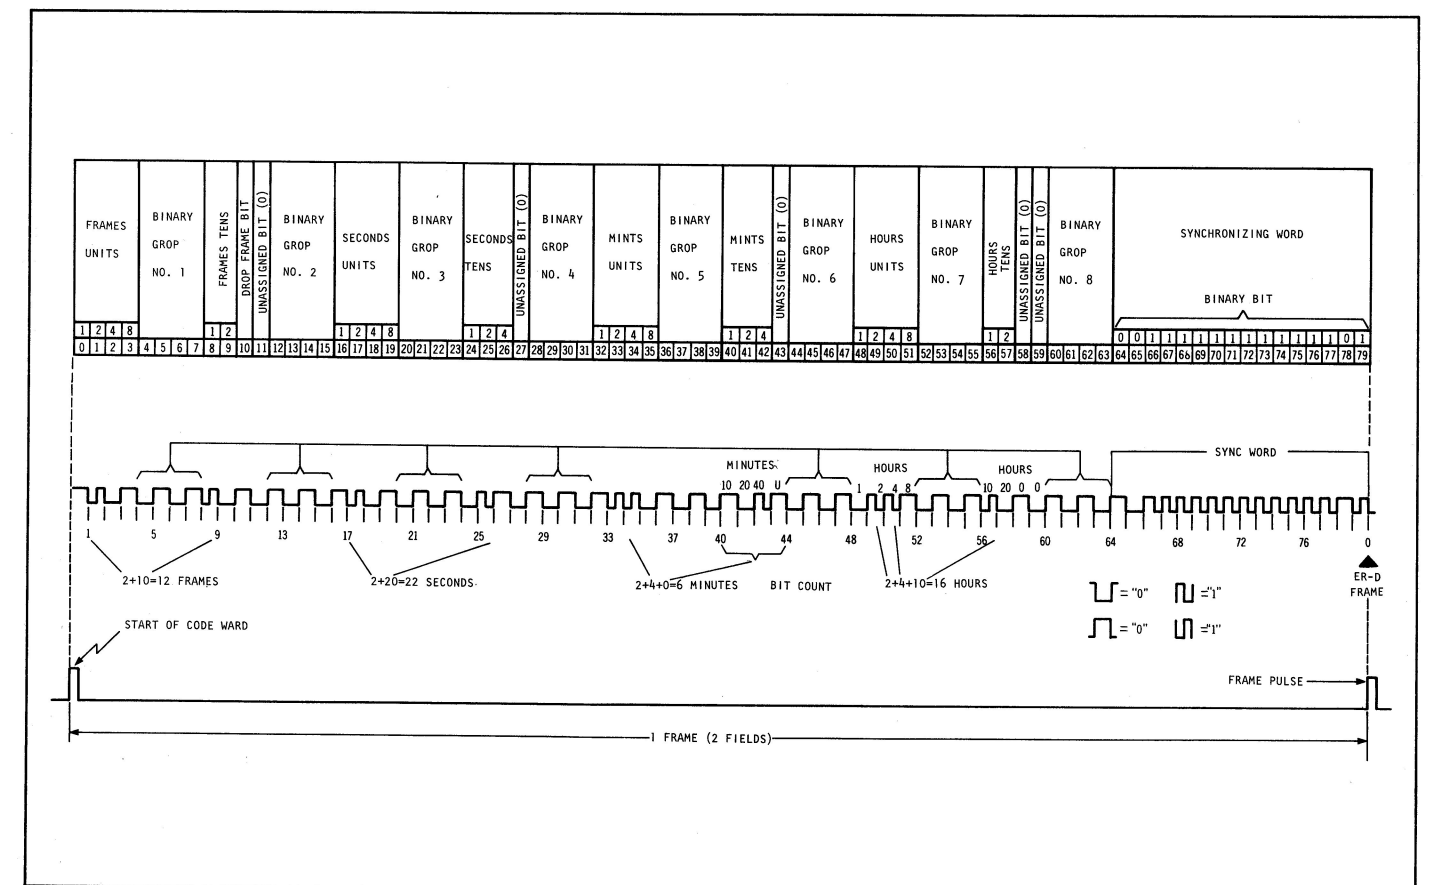

Figure 3-37
By observing the schematic in Fig. 3-36 and the timing chart given in Fig. 3-35, one can see the input from the CPU group (IC345-6), the $\phi 2$ TTL clock. This goes to three decimal counters ($\div 10$) 7493, which also have a B input for divide by 8 (See Fig. 3-37). As block diagram shows input A is counted down into 1/2 at QA, 1/4 at QB, 1/8 at QC and 1/16 at QD.
As a result, OK1 and OK2 signals are nor gated at IC328-(9) and (10) to produce the HOLD signal at IC328-(8), Fig. 3-35 (4). The HOLD signal will be supplied to the CPU, IC346-(13). When the CPU receives this HOLD, the CPU sends out HLDA signal at IC346-(21), Fig. 3-35 (5). Then DMA control logic circuit starts. The address signal (AB0 to AB6) at the address bus selects the DMA by pulling down the lines, which otherwise float high, with open collector gates IC336, 337. Then a proper address appears on the address bus and data on the data bus and it is latched by ICs IC307 ~ IC310, 8212. The 8212 is an 8 bit I/O port and performs as a data latch and buffer, with a block diagram in Fig. 3-37.
The standard also provides for a modulation method, or how the signal shall be recorded and played back. A Manchester I or Bi-Phase coding system is used, and it presents several advantages. It requires no separate clock track to be recorded; the polarity of the signal is not important (a phase reversal is not critical), and the signal can be read at multiple speeds (See Figure 3-37).
The generation of the time numbers and formatting into the groups required by the time code standard (See Fig. 3-37) is done by the microprocessor and program of the edit controller. The time base for the counting is taken from the vertical sync (Int or Ext) at IC914 (8), inverted by IC913-(1)(2), and divided by two (IC908-(3)) to trigger the MMV (IC916-(4)) to produce an interrupt signal every frame, or 30Hz. The processor recognizes the interrupt and counts up the time by one frame. This time data must also then be made into the time code waveform by the generator.